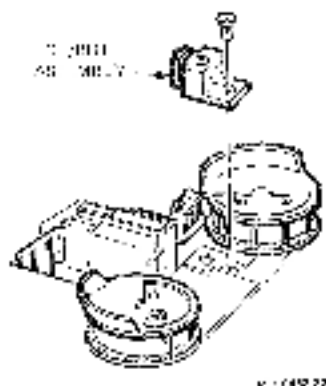

Fig. 4-2 ROT/ROT Assembly
2. Disconnect WEP plug from BOT/BOT sensor. Monitor arrow is under cable (Figure 4-2).
4. Reattach W3P1 plug to assembly connector as shown in Figure 4-2. If excess cable exists, pull excess under tape deck.